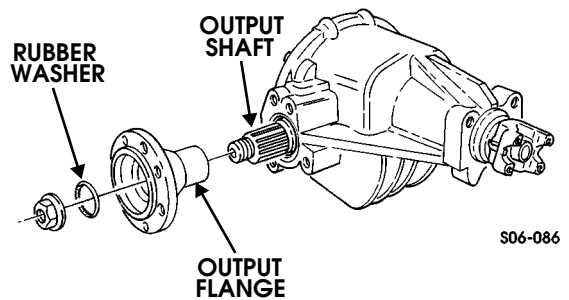

Figure 9-101: Output Shaft Seal Installation
68. Lubricate sealing surface on output flanges with lubricating oil (Figure 9-101).